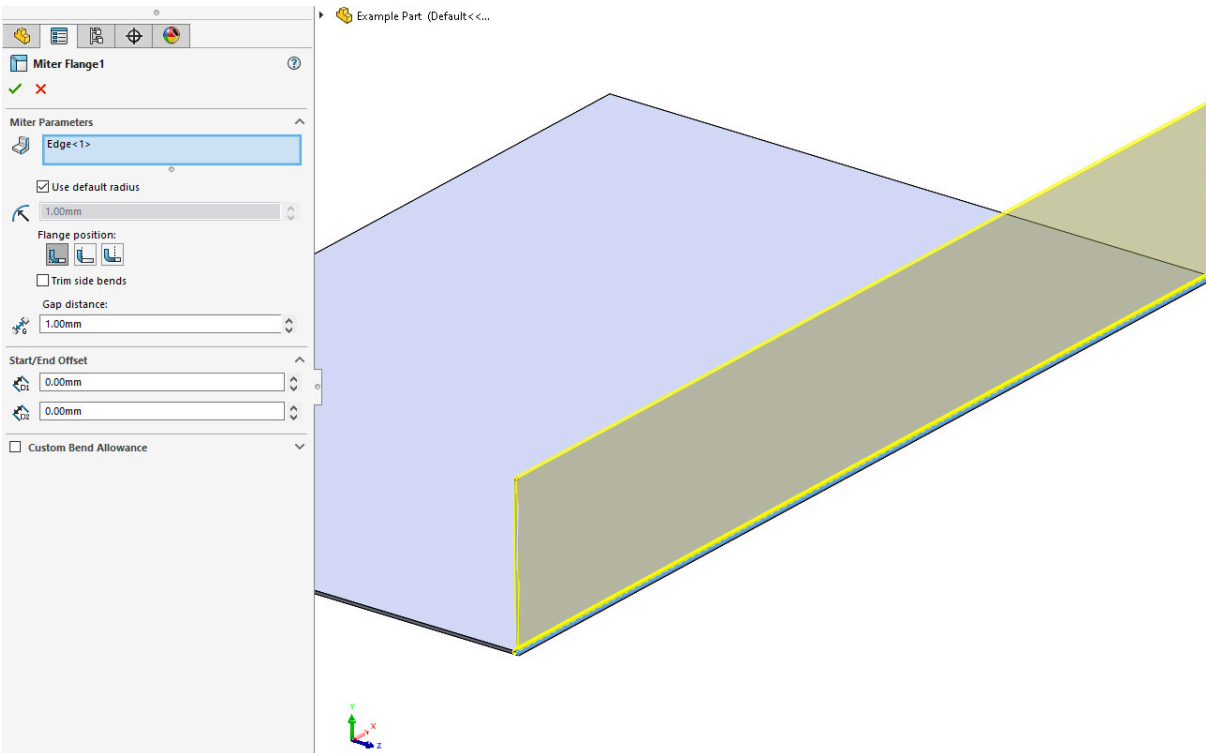

Figure 3.11: Creating a Miter Flange
6. The profile of the vertical line will now be used to create a **Miter Flange** along the long edge of the **Base Flange** (Figure 3.11). If you can't see the yellow preview, then ensure that you have the long edge selected in the **Along Edges** selection box at the top of the **Property Manager** on the left.